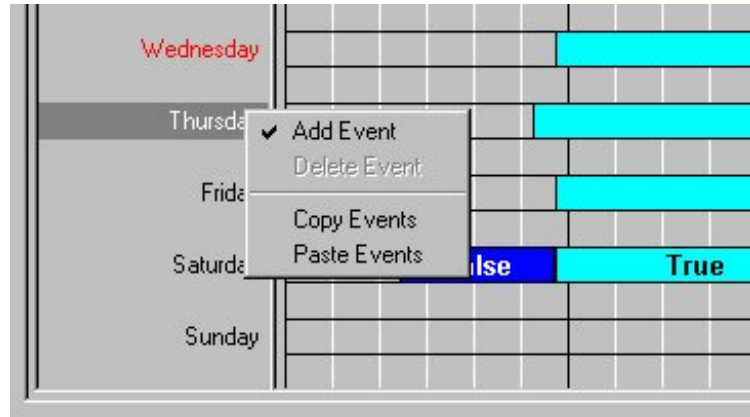

Figure 8-6: Right-click Pop-up Menu Over a Day in the BAC Schedule Object Edit Attributes Screen
3. Right-click on a day of week on the left side of the screen, and check Add Event. A pop-up menu for weekly schedule events appears (Figure 8-6).